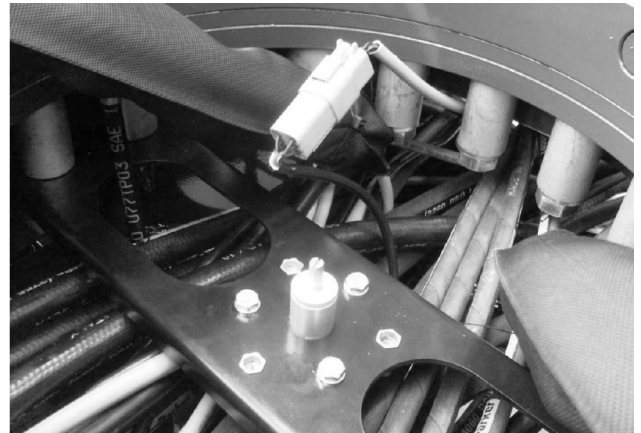

Figure 4-26.
3. Mount the rotation sensor (encoder) to the crossmember under the turntable bearing using 3 - 6 x 12M screws with threadlocker. Connect the rotation sensor electrical connector to the connector coming from the electrical box. See Figure 4-26.